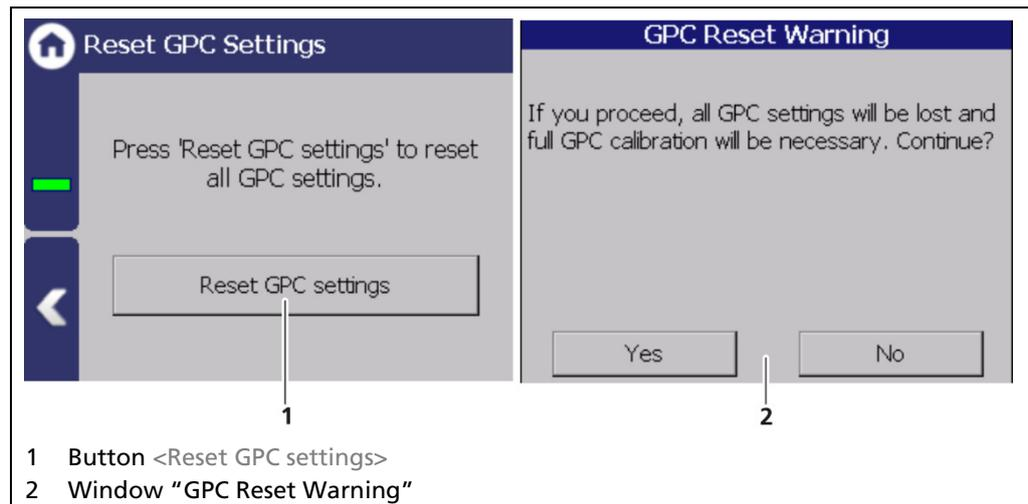

Fig. 99 Reset GPC Settings
1. Click on the button <Reset GPC settings> (Fig. 99, item 1).
▶ A confirmation message (Fig. 99, item 2) appears.